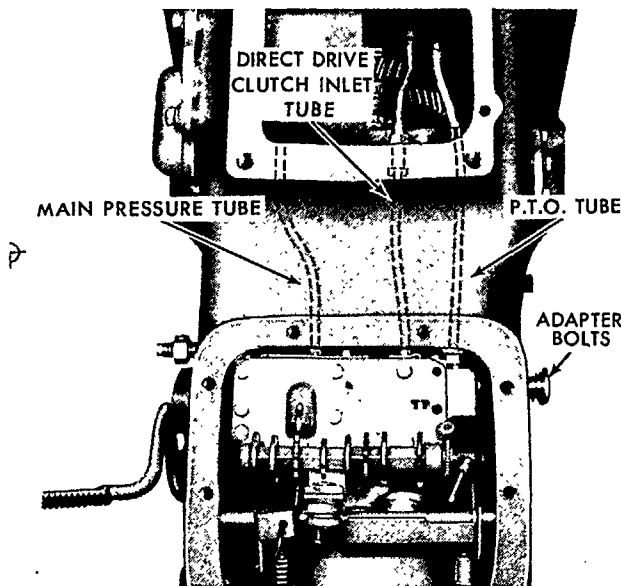

Figure 51
15. Disconnect the fitting that attaches the P.T.O. hydraulic oil line to the distributor. Refer to Figure 51.
16. On tractors fitted with heat exchangers, remove the two heat exchanger line adapter bolts from the distributor. See Figure 51.
16. Align the main pressure, direct drive clutch, and band 1 servo tubes with their respective openings in the distributor, and align the P.T.O. tube with the fitting in the distributor, Figure 51. Apply pressure to the distributor so that the sealing rings enter into the clutch housing. Install the four mounting bolts but do not tighten securely at this time.
17. Install and properly position the band 2 and 3 servo tubes into the distributor. See Figure 51. If the tubes are not aligned with the distributor, rotate the distributor as required, and insert the tubes.